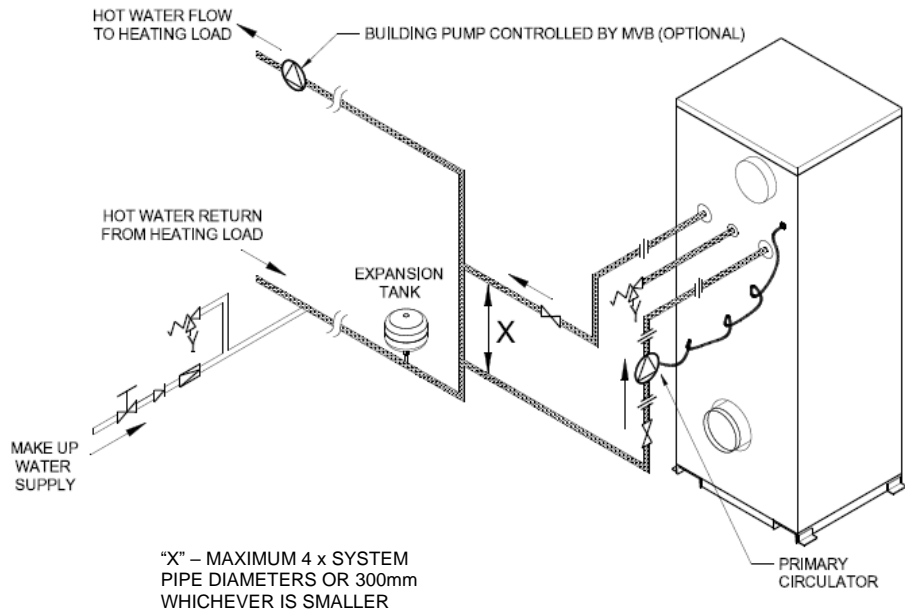

Fig 11: Typical Installation – Mechanical Heating Primary Flow and Return
- The water heater/s **MUST** operate on their own primary flow and return circuit, separate to the system heating circuit. The primary return branch to the water heaters and the primary flow branch from the water heaters **MUST** be separated by a distance not exceeding 4 x system pipe diameters or 300mm, whichever is the smaller. Refer to Fig 11 on page 51